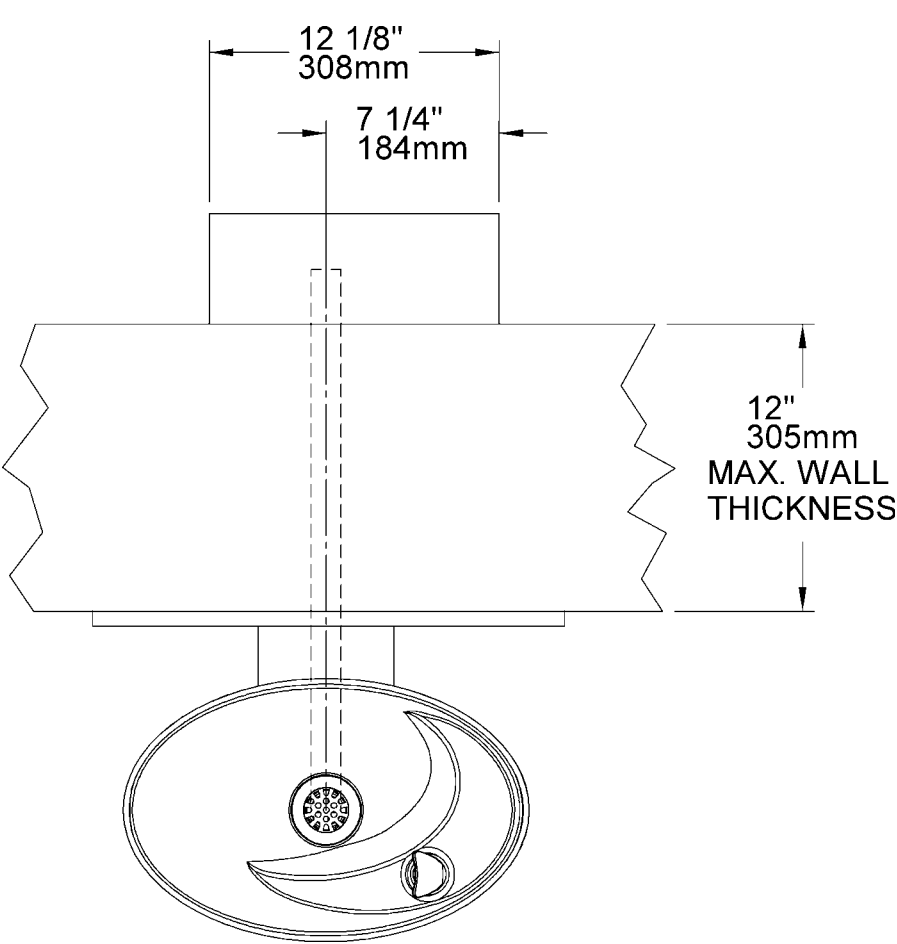
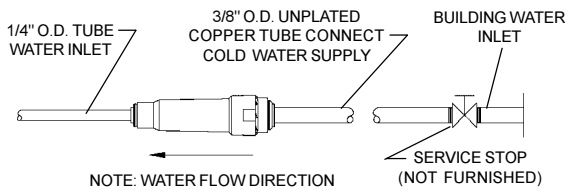

FIG. 1
FIG. 11
8. Connect drain and water supply lines to the freeze resistant fountain. Refer to Figure 1, 2, 3, 4, 5 or 6 for component positions. Inline strainer must be used on the inlet water line. See Fig. 11.